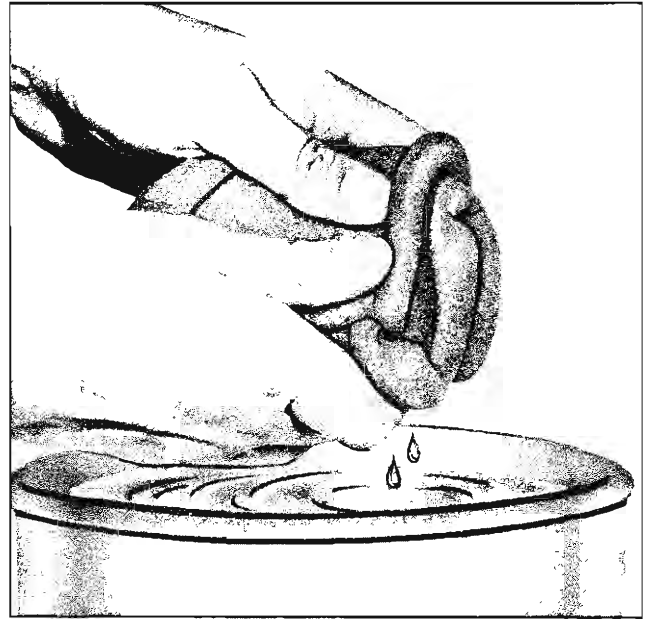

Fig. 95—Cleaning Polyurethane Element
4. Remove support screen from element and wash element in kerosene or mineral spirits; then squeeze out excess solvent (fig. 95).